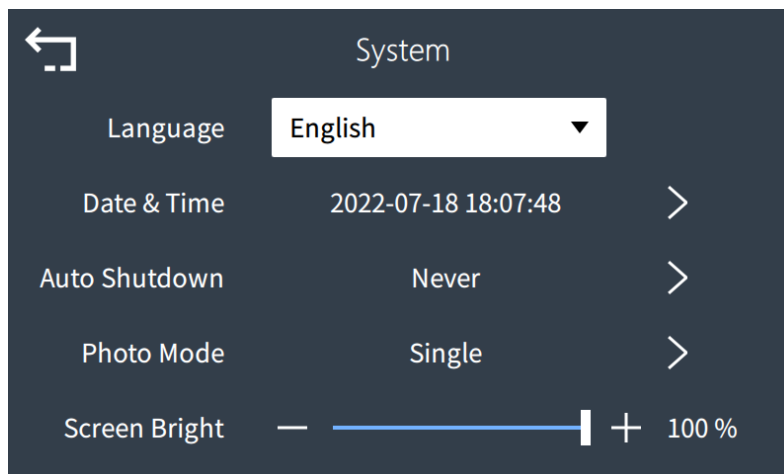

Figure 4.14 Photo Mode
Step 4: Touch and click the photo mode to enter the photo mode selection page (as shown in Figure 4.14);